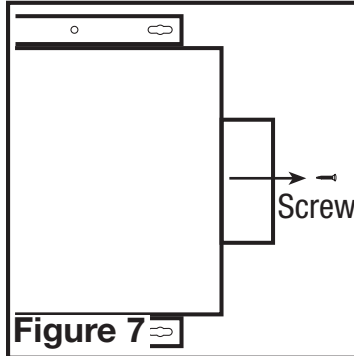

Figure 7
1. Determine the CFM required. The unit can be set for 50 CFM or 80 CFM. Remove the screw securing the access panel cover in place and open the cover to gain access. Locate the speed control panel inside the unit (**Figure 7**).